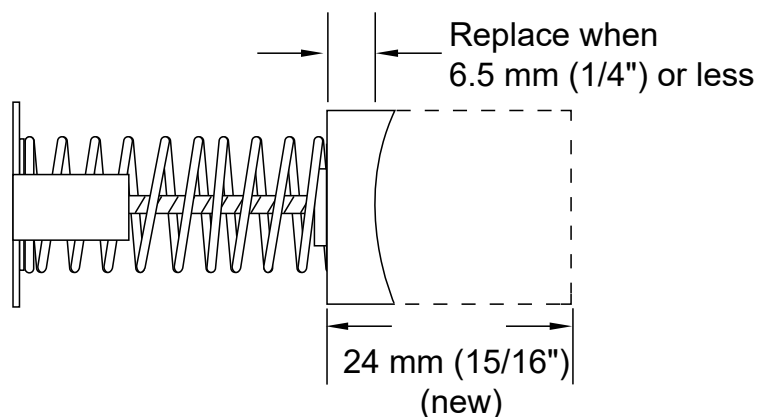

Fig. 21.
- C. The brush assemblies must be replaced if they are 6.5 mm (1/4") long or less (see figure 21).